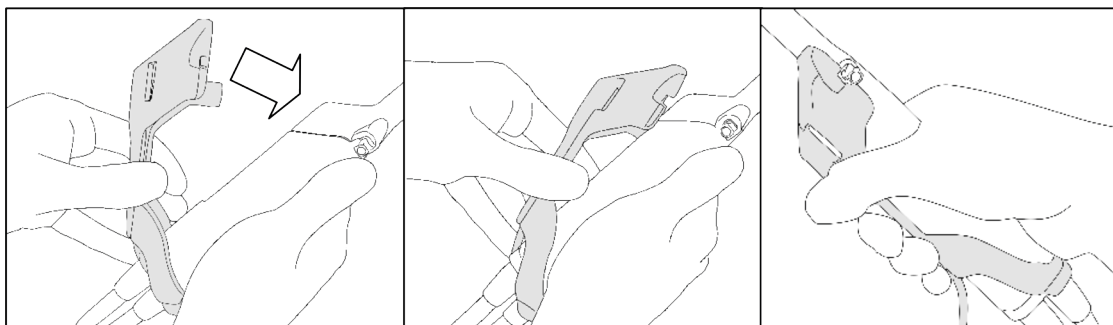

Figure 6 How to attach Magnetic Position Sensor Attachment
- (3) Attach the magnetic position sensor attachment to the probe as shown in Figure 6.